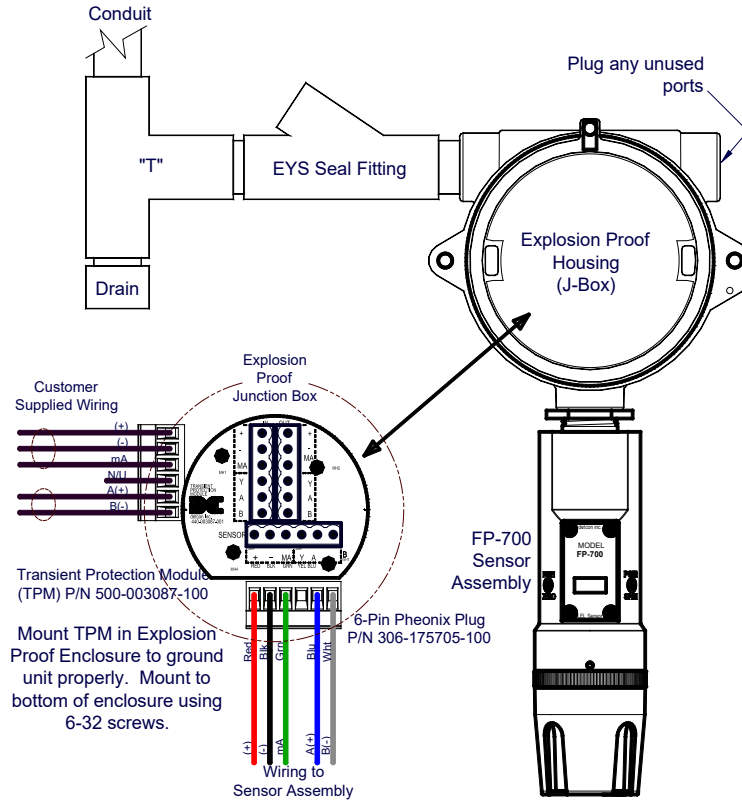
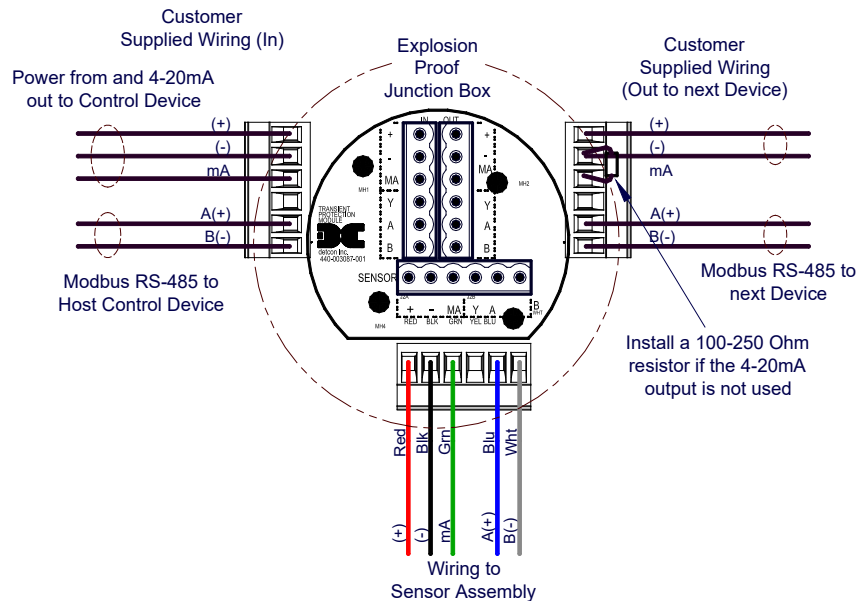

Figure 11 Typical Installation
Figure 12 Sensor Wire Connections
NOTE: In all installations the gas sensor should point straight down, refer to Figure 11. Improper sensor orientation may result in false readings and permanent sensor damage.
Proper electrical installation of the gas sensor is critical for conformance to Electrical Codes and to avoid damage due to water leakage. Refer to Figure 11 and Figure 12 for proper electrical installation.
NOTE: If a conduit run exits the secondary port, repeat the installation technique shown in Figure 11.
In Figure 11, the drain allows H₂O condensation inside the conduit run to safely drain away from the sensor assembly. The electrical seal fitting is required to meet the National Electrical Code per NEC Article 500-3d (or Canadian Electrical Code Handbook Part 1 Section 18-154). Requirements for locations of electrical seals are covered under NEC Article 501-5. Electrical seals also act as a secondary seal to prevent water from entering the wiring terminal enclosure. However, they are not designed to provide an absolute water-tight seal, especially when used in the vertical orientation.
NOTE: For products utilizing the aluminum junction box option, the conduit seal shall be placed at the entry to the junction box (see Figure 11 as an example). For products utilizing the stainless steel junction box option, the conduit seal shall be placed within 18" of the enclosure. Crouse Hinds type EYS2, EYD2 or equivalent are suitable for this purpose.
- Observing correct polarity, terminate the 3-conductor 4-20mA field wiring (+, -, mA) to the sensor assembly wiring in accordance with the detail shown in Figure 12. If the 4-20mA output is not used, the green wire from the sensor must be connected to the (-) terminal on the Transient Protection Module.
- If applicable, terminate the RS-485 serial wiring as shown in Figure 12. Use the second plug (Out) as termination point on the customer side to facilitate a continuous RS-485 serial loop